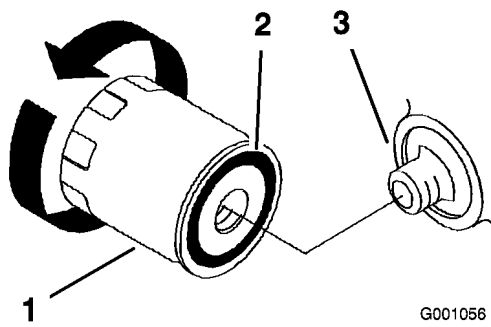

Figure 34
- Remove the old filter (Figure 34).
4. Apply a thin coat of new oil to the rubber gasket on the replacement filter (Figure 34).
5. Install the replacement oil filter to the filter adapter, turn the oil filter clockwise until the rubber gasket contacts the filter adapter, then tighten the filter an additional 3/4 turn (Figure 34).